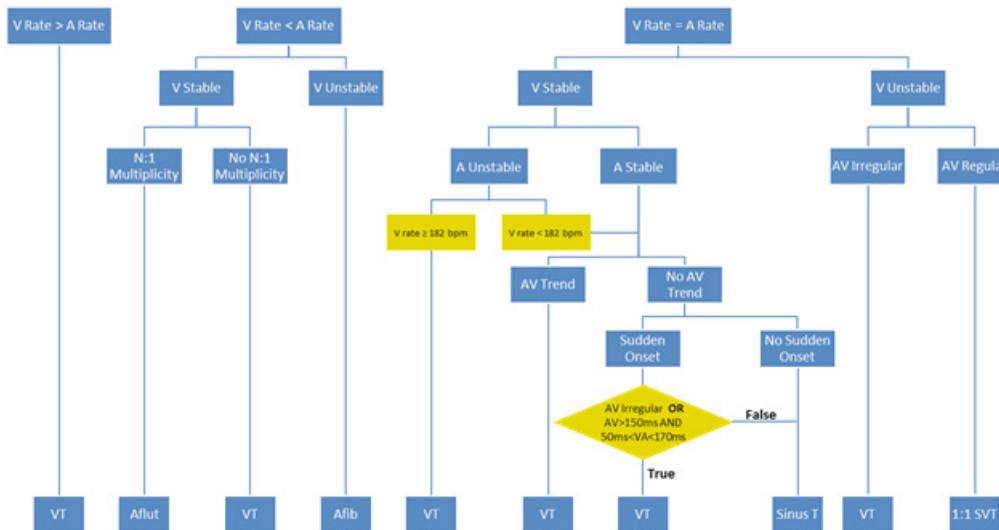
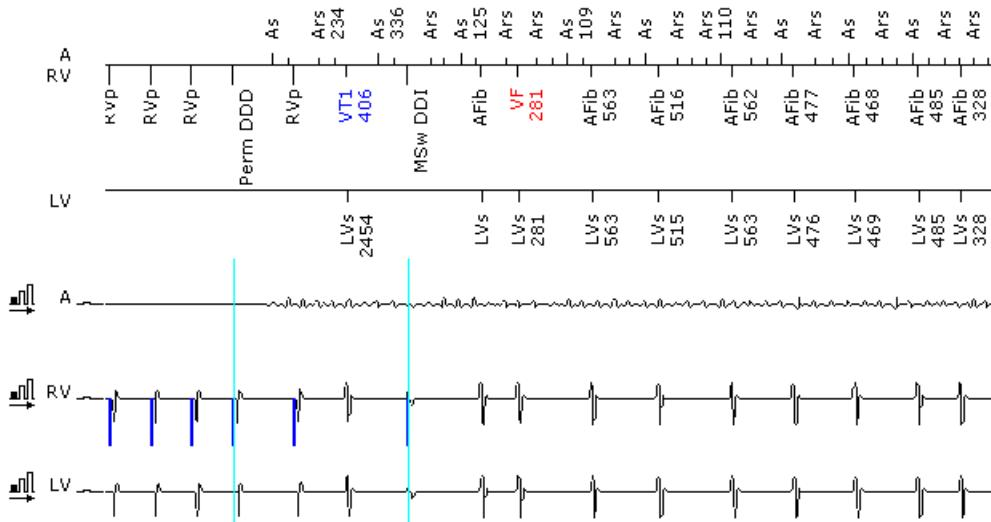

Figure 99: The SMART Detection® decision tree.
Figure 102: SMART® Redetection
SMART Detection® is one of the most sophisticated detection algorithms available for the discrimination of ventricular tachycardia (VT) and supraventricular tachycardia (SVT). SMART Detection® (Figure 99) is designed to increase detection specificity (i.e., to increase the likelihood that atrial tachycardia is not declared a VT) without sacrificing sensitivity (i.e., the ability to detect and treat all VTs with therapy).
Each time an interval is found to lie within one of the programmed VT zones, SMART Detection® follows a series of decisions to determine whether the interval meets the criteria for a VT count or an SVT count. VT intervals affect VT counters, while SVT intervals affect an SVT Counter. VT intervals are labeled with a VT1 or VT2 marker. SVT intervals are marked by one of four labels: AFib for atrial fibrillation, AFLut for atrial flutter, SinusT for sinus tachycardia, or 1:1 for atrial tachycardia. Additional steps in the SMART tree, highlighted in yellow, determine between a biarrhythmia, a monomorphic VT with retrograde and a sinus tachycardia by evaluating the ventricular rate, AV regularity and VA interval lengths (Figure 99).
Using SMART Detection®, a biarrhythmia (i.e., a concurrent atrial and ventricular arrhythmia) is identified along several branches of the SMART Detection® decision tree. The biarrhythmia in this section occurs when the atrial rate is greater than the ventricular rate, the ventricular rate is stable, and multiplicity cannot be established. When these conditions are met, a VT with concurrent atrial tachycardia or atrial fibrillation is identified. Each beat will be marked with a VT marker (Figure 102).
Once SMART Detection® identifies equal atrial and ventricular rates, atrial and ventricular stability is tested. In this branch, SMART uses other criteria to determine between VT or SVT by evaluating the ventricular rate. If the ventricular rate is stable, the atrial rate is unstable and the ventricular rate is greater than or equal to 182 bpm, the rhythm is disassociated and classified as a VT. If the ventricular rate is less than 182 bpm, atrial stability is considered fulfilled and SMART the criteria in Branch 6, 7 or 8 to determine between VT or Sinus Tachycardia (Figure 99). During redetection, SMART will ignore the “Vrate > 182 bpm and Vrate < 182 bpm” criteria (shown in yellow in Figure 99) and only use atrial and ventricular stability to classify a VT event.
SMART will decrease the VT counter by -1/2 for any ST detection. During redetection, SMART will classify a beat as ST only if ventricular and atrial rates are stable, if there is no AV Trend and if Sudden Onset is not met. The criteria in yellow (Figure 99) will not be used during redetection.
SMART® Redetection is automatically ON when SMART Detection® is programmed. It is used after VT therapy delivery to withhold further therapy if the delivered VT therapy resulted in an SVT. VT redetection with SMART® Redetection ON is based on the programmable Redetection Count; however, the counters are changed. A VT interval will increment the counter +1, a VF interval “freezes” the counter, and a Sinus interval decrements the counter by -1. SVT events will decrement the counter as in initial SMART® Redetection. The exception of behavior with SMART Detection® ON is Branch #10 which decrements by $\frac{3}{4}$ and Branch #8 which decrements by $\frac{1}{4}$. SMART® Redetection will not use the discriminators “Vrate ≥ 182 bpm and Vrate < 182 bpm” or the “AV unstable or AV and VA interval” criteria as shown in yellow in Figure 99. The Sustained VT timer is not utilized when SMART® Redetection is ON, but rather a Forced Termination timer is used. An Example of SMART® Redetection is shown in Figure 102.
Figure 102 shows a detected VT treated with ATP. The result of the therapy was atrial fibrillation. Because SMART® Redetection is ON, no therapy will be delivered while the AFib continues.